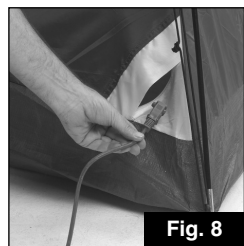

Fig. 8
- Unzip access panel in the lower right corner of tent and bring in electrical cord. Use only UL approved cords that are rated for outdoor usage. (Fig. 8)